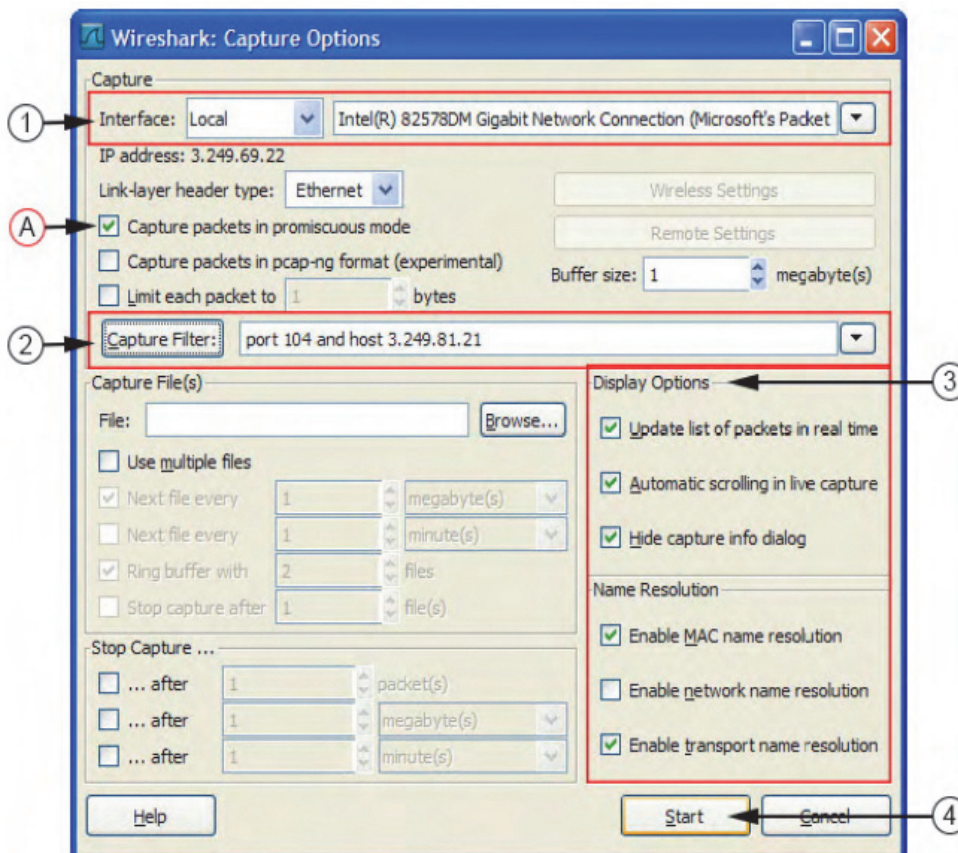

Figure 7-9 Capture Options
- 1.) Click on CAPTURE FILTER (see: Figure 7-9 on page 7-11).